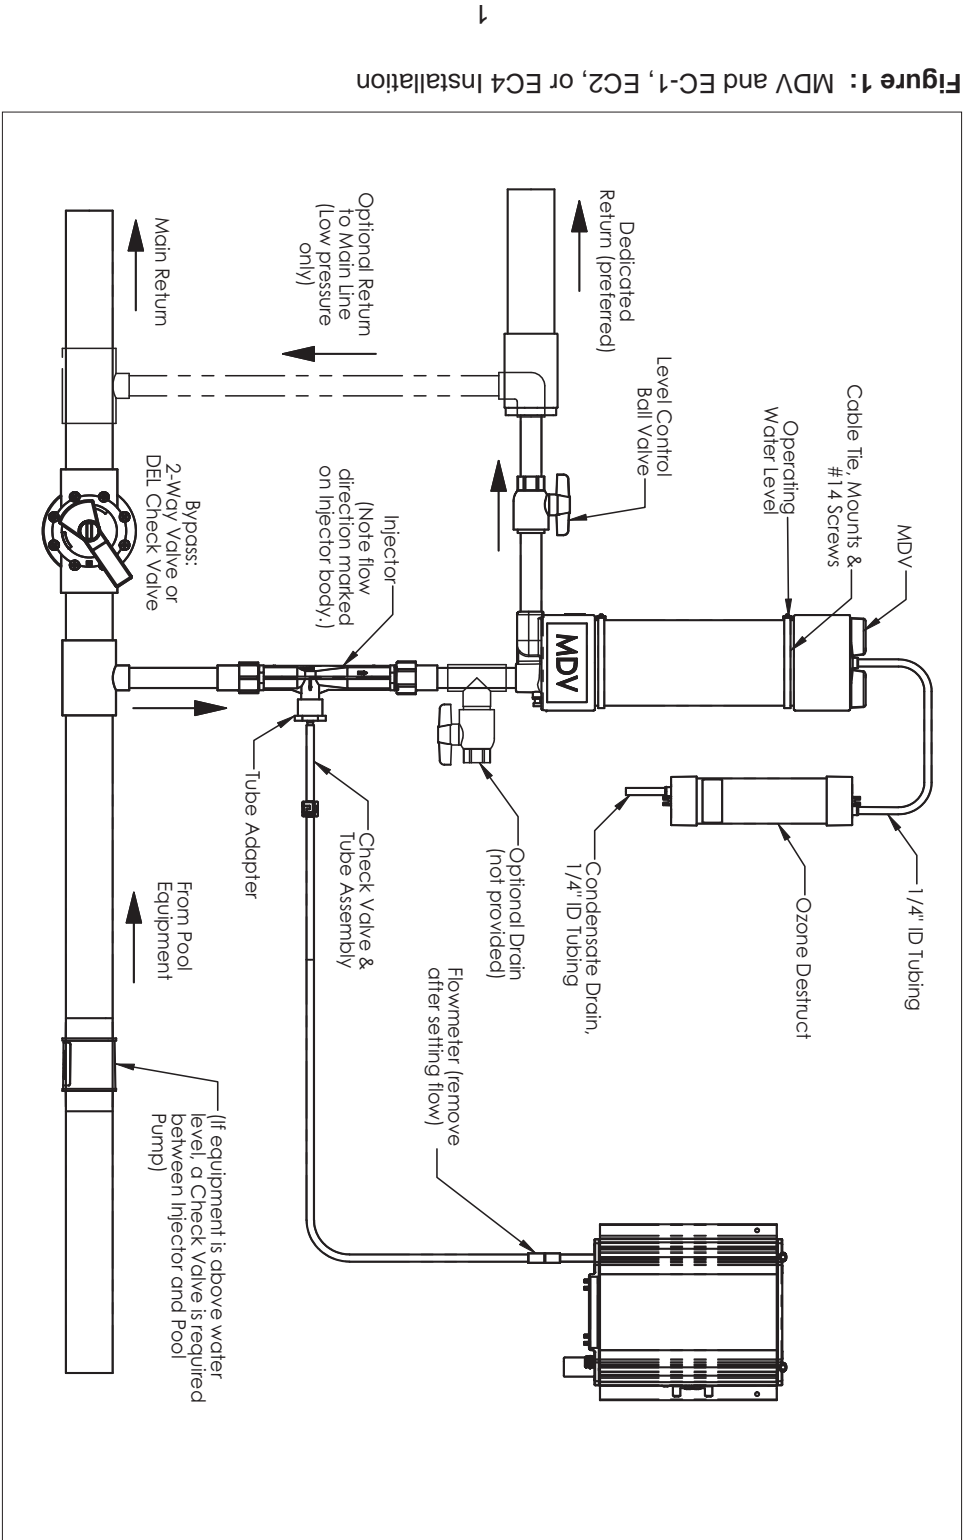

Figure 1: MDV and EC-1, EC2, or EC4 Installation
Installation (refer to Figure 1)
2. Mount the MDV vertically as shown in Figure 1 to a solid surface (i.e. fence, wall, post) using the (2) cable ties, (4) cable tie mounts, and (4) screws included. Use a pair of pliers to tighten and secure the cable tie. If trimming away excess, fold tab over to avoid the sharp edge. To avoid discoloration, mount in an area out of direct sunlight.
3. Mount the (GAC) Cartridge vertically to a flat surface using (2) #6 screws. **NOTE:** Mount the cartridge close enough to the MDV so that the tubing can be connected from the cartridge to the top of the MDV.
4. Install By-Pass plumbing as shown in Figure 1. Use the appropriate By Pass Valve based on your pump type: